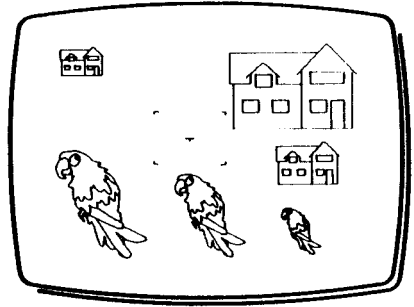

Fig 2
- 3 Press and release T. You now have a COPY cursor, with full functions, carrying a duplicate of the chosen library unit (Fig 2).